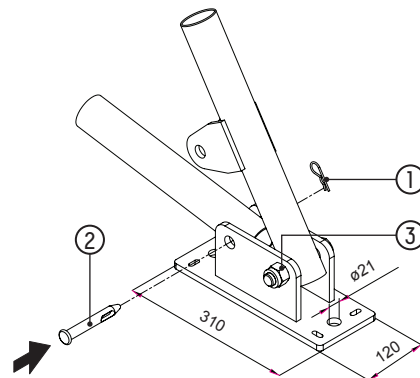

Fig. 37
- ▶ The prop is completed by the installation of the prop tilt plate (Fig. 37), necessary to fix it to the ground.